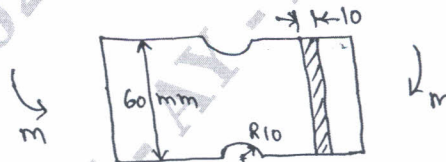

Fig.Q.2(a)
- 2 a. A notched flat plate shown in Fig.Q.2(a) is subjected to bending moment of  $10 \text{ N.m}$ . Determine the maximum stress induced in the member by taking the stress concentration into account.